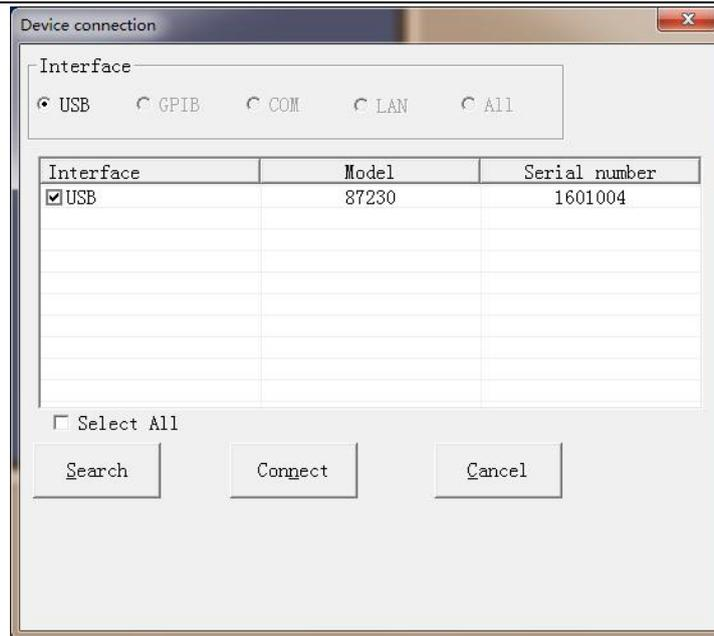

Fig. 3.3 Equipment Connection Window
Step 1. Connect the USB power sensor with the computer; open the power test panel; select the USB device to be connected in the pop up “Instrument Connection” window in the system, and click “Connection” button. As shown in Fig. 3.3, the measurement process is normal;